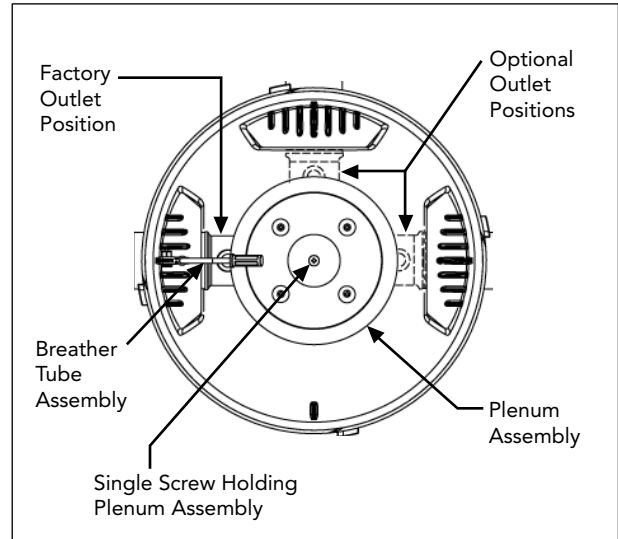

Figure 8- Changing the Outlet Port
3. Remove the single screw holding the Plenum in place. Grasp the Plenum Adapter and pull the assembly out of the tank. Clean the bottom of the tank (see Fig. 8).